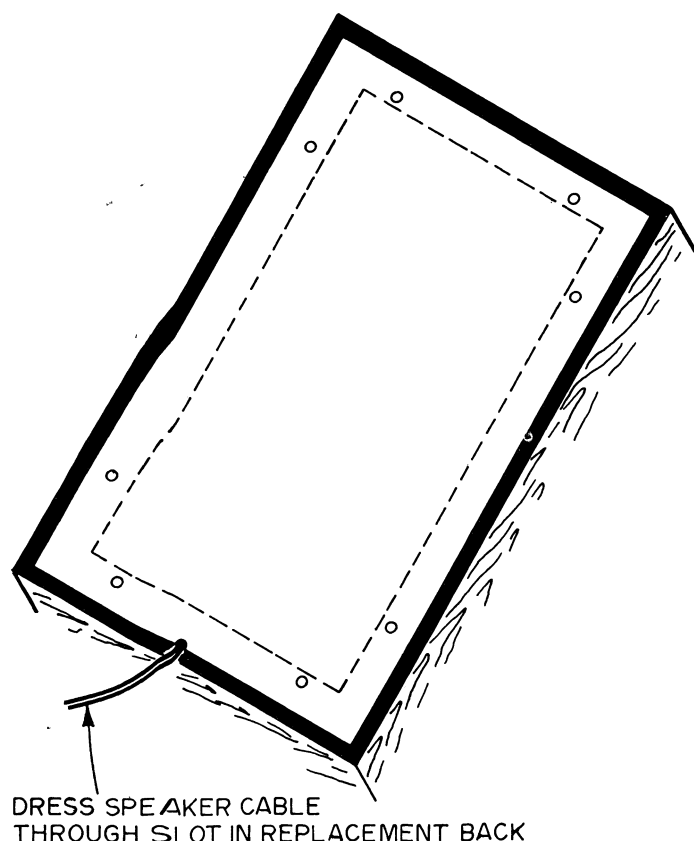

FIGURE 5 – SECURING NEW PANEL
13. Insert screws provided through the pre-drilled holes in the replacement back. Tighten the screws so the back is firmly secured to the portion of the back remaining in the enclosure (See Figure 5).